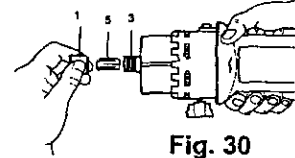

Fig. 30
4. Insert collet with square hole (5) into main shaft (3) and re-install the collet nut onto the main shaft (see Fig. 30).